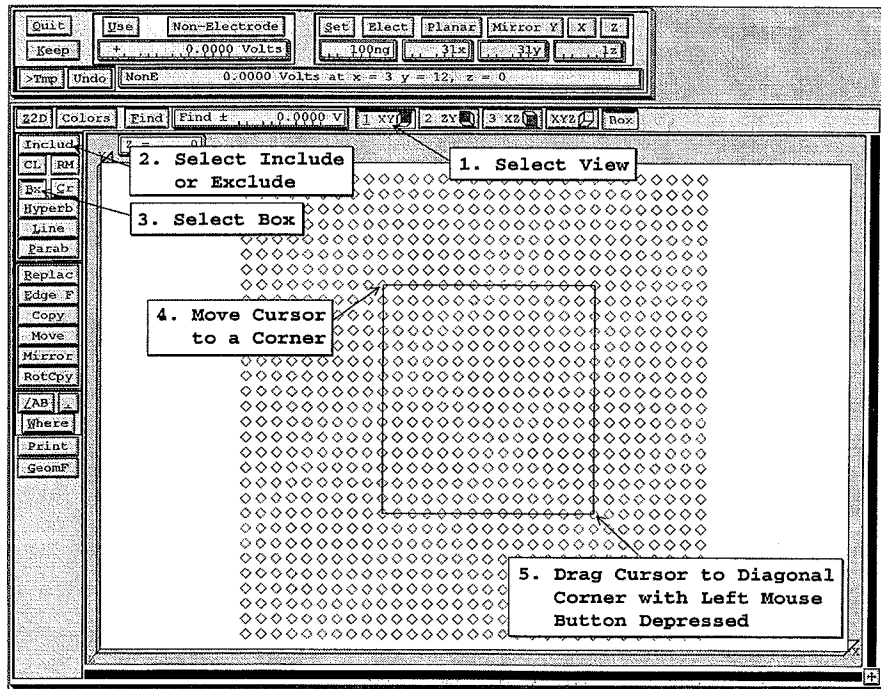

Figure 5-9 Steps involved in using box marking
*To mark a rectangle make sure the Box button is depressed* (Figure 5-9). Now move the cursor to a corner of the box. Hold the *left* mouse button depressed and drag the cursor to the diagonally opposite box corner. Now release the *left* mouse button.